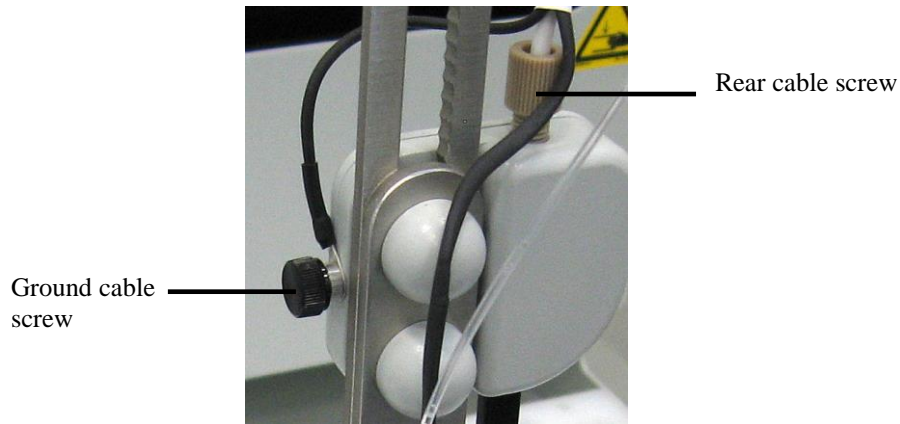

Fig. 32: Cable screws on the diverter valve assembly
8. Tighten the finger-tight knurled screw that attaches the rear cable to the diverter valve and connect the grounding cable from the rear cable to the ground cable screw and tighten the screw (→ Fig. 32, page 70).
5. Loosen the two finger-tight knurled screws that attach the rear cable and grounding cable to the diverter valve assembly (→ Fig. 32).